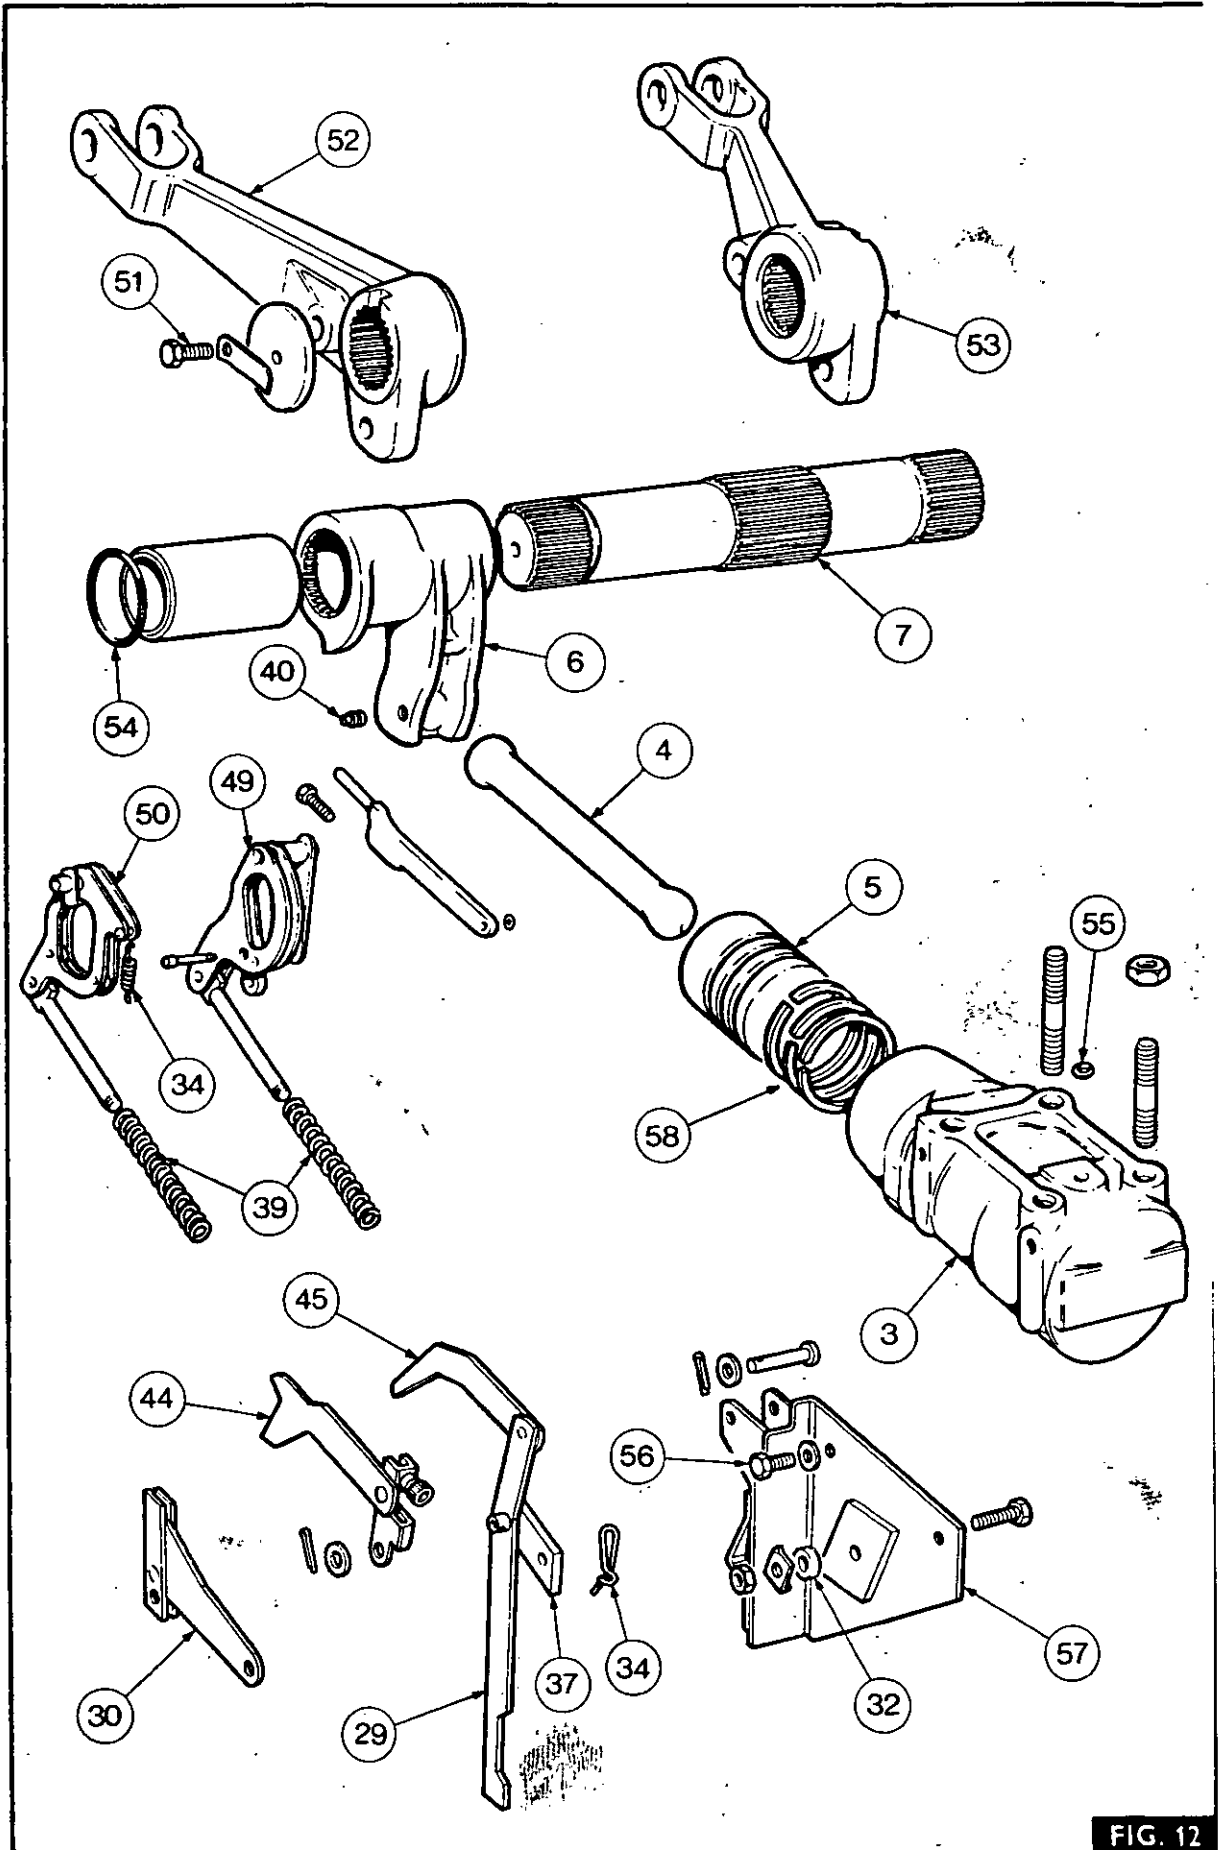

FIG. 12
9. Refit the standpipe cap (20) and secure it with the two bolts and spring washers.
**Figs. 12 to 22****Disassembly**
14. Fig. 12. Remove the bolt (51) and tabwasher, then slide off the right hand lift arm (52).
15. Figs. 12 and 21. Drive the lift shaft (7) and the remaining lift arm (53) out of the lift cover, then remove the ram arm (6). Remove the 'O' rings (54).
1. Fig. 12. Place the ram arm (6) in the lift cover, then slide the lift shaft (7), complete with a new 'O' ring (54) into the lift cover and through the ram arm (6), aligning the master splines.
2. Refit the right hand lift arm (52), plus a new 'O' ring (54) aligning the master spline.
3. Refit the bolt (51) and the tabwasher.
16. Fig. 12. Locate the slide pivot (37) on the bolt, then refit the spacer (32), tab washer and the nut (33).
17. Refit the Pressure Control link (30) and secure it with the washer and the split pin (31).
**Figs. 12 to 16**
1. Remove the ram cylinder, as stated in items 1 to 8 of operation 7A—04—41.
2. Fig. 12. Remove the bolts (56) securing the support bracket (57) to the ram cylinder (3).
3. Withdraw the piston (5) from the ram cylinder, then if necessary, remove the piston rings (58).
**Figs 12 to 20 and 22.**
1. Remove the linkage as stated in items 1 to 8, and 10 to 13 of operation 7A—04—41.